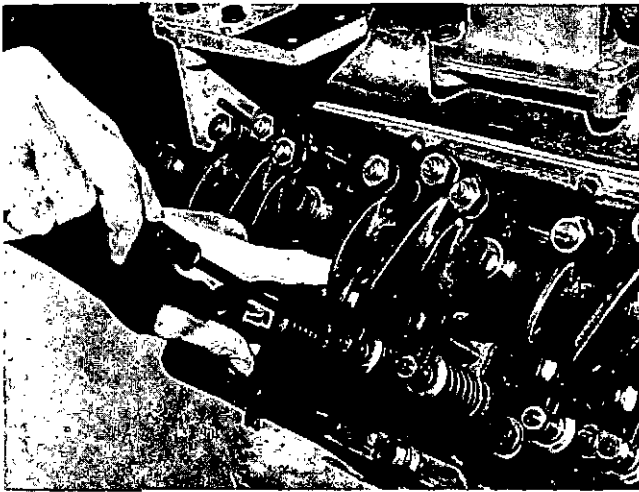

Fig. 5-31, V11915. Adjusting crossheads
3. Turn down crosshead adjusting screw until it touches valve stem. Fig. 5-31.